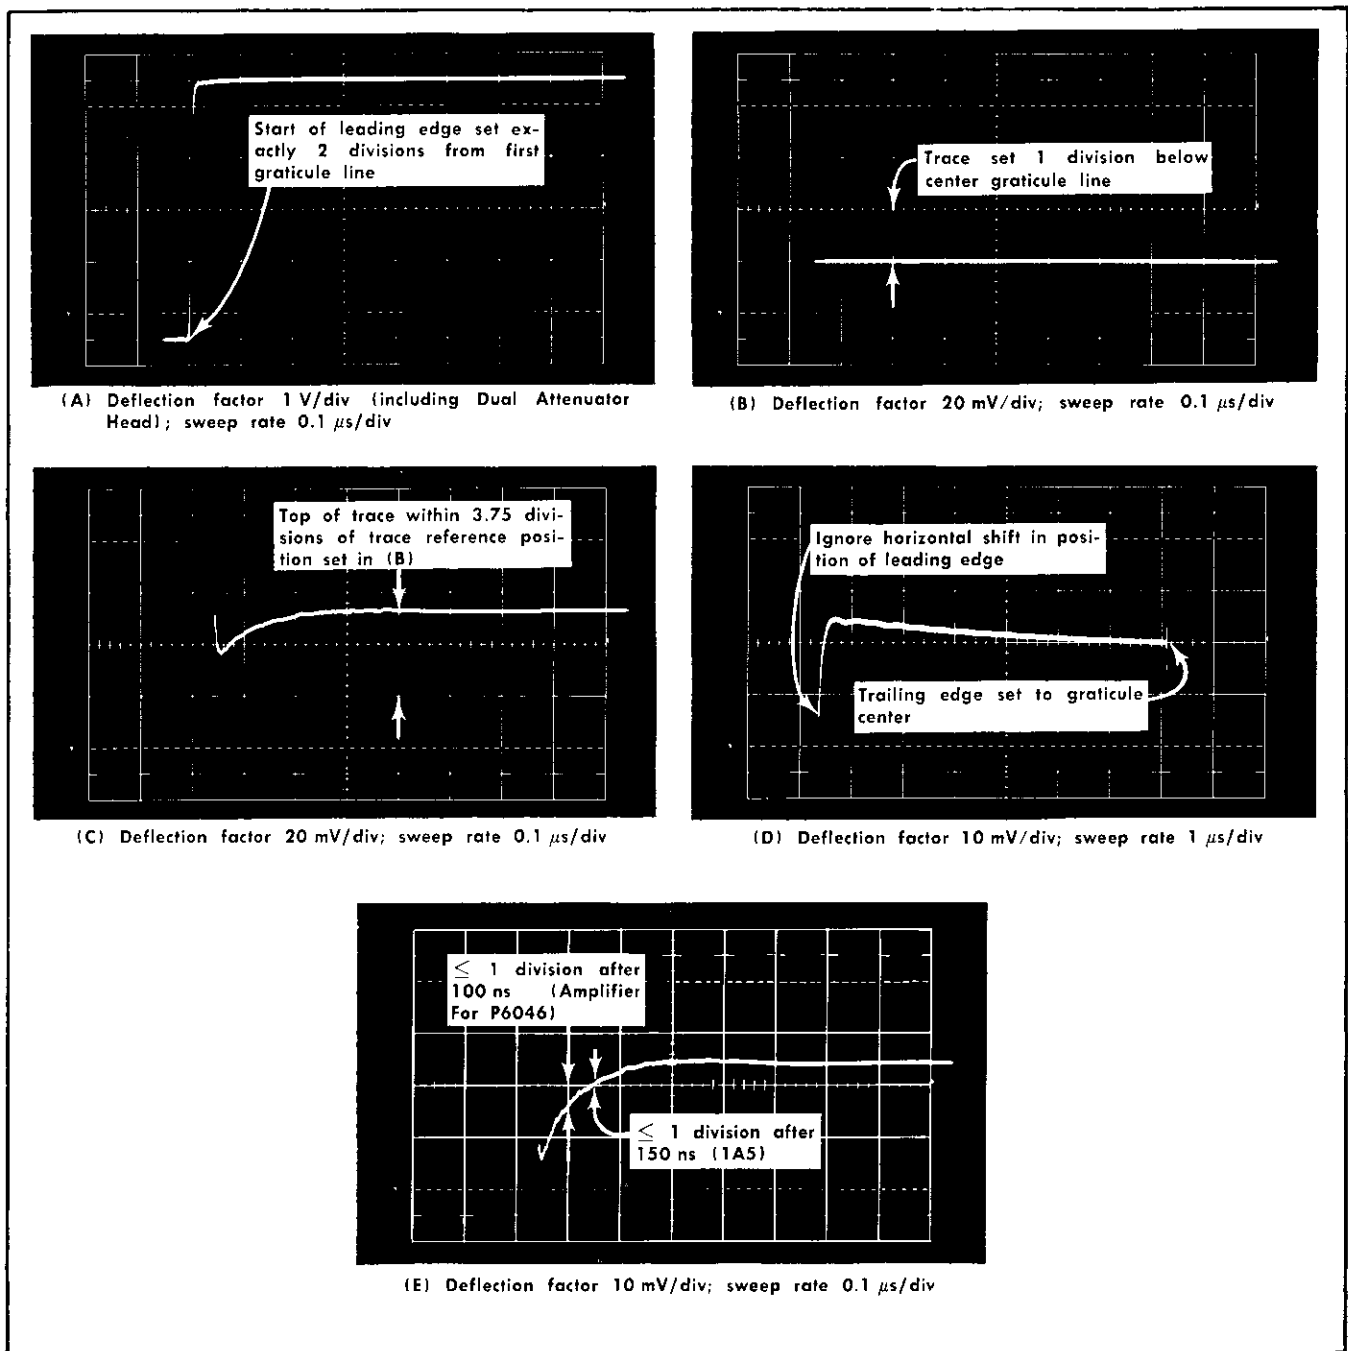

Fig. 5-3. DC shift and overdrive recovery waveforms, step 6.
- GR 2 \times attenuator (item 16)
- GR 90° elbow (item 10) (optional)
- 5 ns GR cable (item 9)
- GR-to-BNC 50 Ω termination (item 5)
h. Adjust the Square Wave Generator AMPLITUDE control to provide a 5 division square wave. Adjust the Oscilloscope TRIGGERING LEVEL as necessary to obtain a stable display. Using the horizontal position controls, set the leading edge of the square wave to start exactly 2 divisions from the first vertical graticule line as shown in Fig. 5-3(A). Do not move the horizontal position or triggering controls for the remainder of this step.
m. CHECK—DC shift due to overdrive. Connect the + Input tip to the Probe tip-to-GR adapter and associated equipment. (A special Ground tip should remain connected to the — Input tip.) Check the position of the top of the square wave 1 second after making the connection. 3.75 divisions or less trace shift should occur, for a trace shift of 1.5% or less of input signal. See Fig. 5-3 (B) and (C).
n. Switch to 10 mV vertical deflection factor. Switch the Time/Div control to 1 μ s. Using the vertical POSITION control, set the trailing edge of the top of the square wave to the vertical center of the graticule as in Fig. 5-3 (D).
o. (P6046 Probe/Type 1A5 only) CHECK—Over-drive recovery time. Switch the Time/Div Control back to .1 μ s and check the vertical separation between the trace and the graticule vertical center 5 divisions from the first vertical graticule line (300 ns after start of step function as shown in Fig. 5-3 E). At that point the trace should be within 1 division of graticule vertical center, and stay within for the remainder of the positive excursion of the square wave.
and graticule center 3 divisions from the first vertical graticule line (100 ns after start of step function). At that point the trace should be within 1 division of graticule vertical center, and stay within for the remainder of the positive excursion of the square wave. See Fig. 5-3 (E).